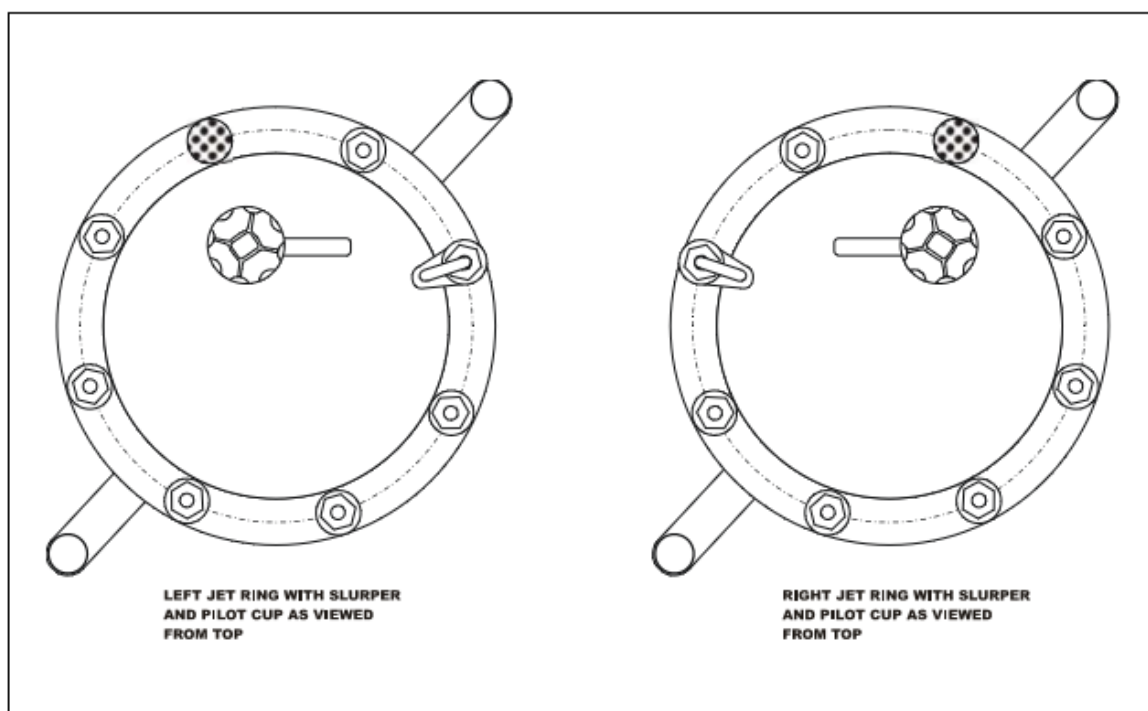

FIG. 6.29a
Refer to FIGs. 6.29a & 6.29b
- 2) Remove the correct main burner jet(s) and washer(s) from the jet ring(s), as indicated in FIG. 6.29a, using a 5/16 Whitworth socket.